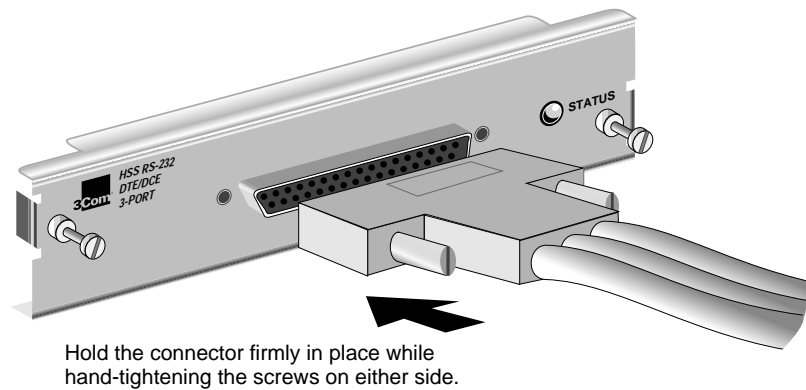

Figure 1-2 Attaching the RS-232 3-Port Cable to the Module
- 1 Attach the 50-pin socket connector on the HSS RS-232 3-Port cable to the 50-pin connector on the module as shown in Figure 1-2.